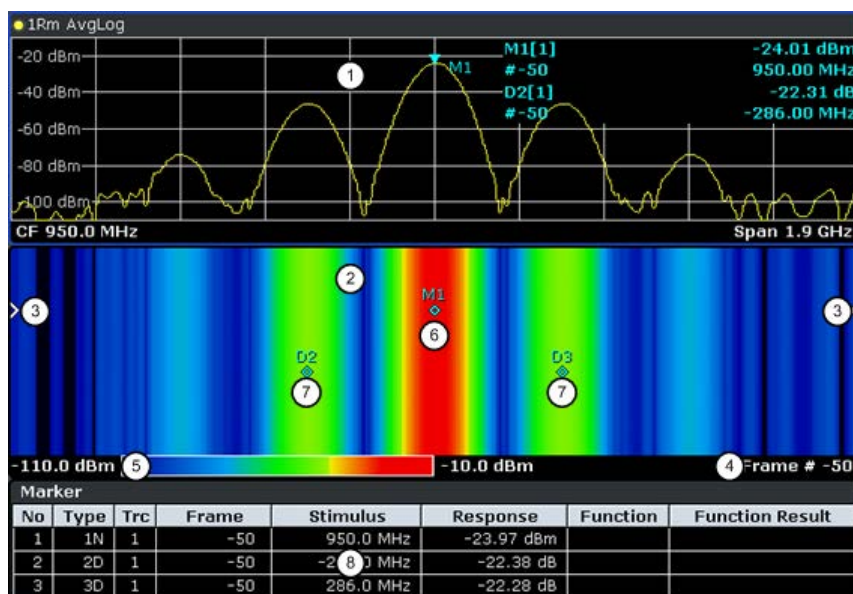

Fig. 3-47: Screen layout of the spectrogram result display
- Spectrum Analyzer result display (1 in figure 3-47)